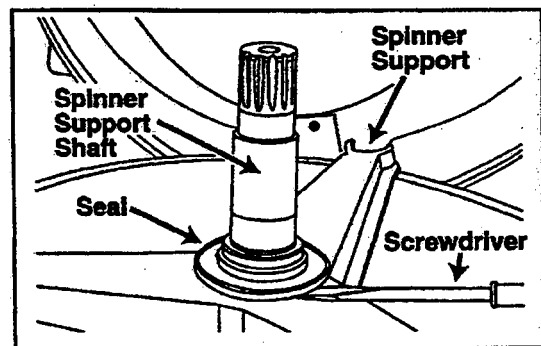

Figure 2-45
3. With a flat bladed screwdriver, pry the seal carefully off the tub support shaft (*Figure 2-45*).
5. Position the spacer, replacement rubber seal and steel seal washer into the outer tub bearing area (*Figure 2-45*).